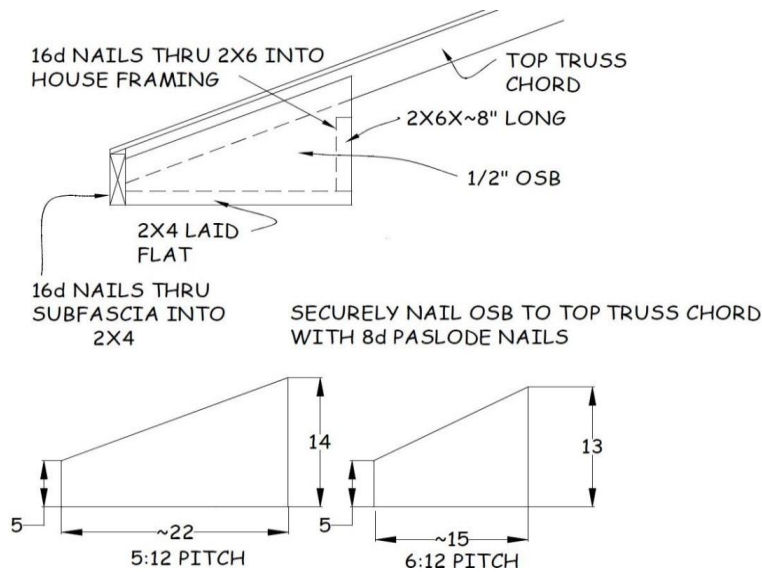

Figure 11-3. Gable Corner.
2. Gable corners are built using one layer of ½" OSB (see Figure 11-3).
6. Nail the OSB to the 2x4 and the 2x6 with six 2³/₈” collated nails, using either factory edges or a framing square to keep the frame pieces square to each other (see Figure 11-3).